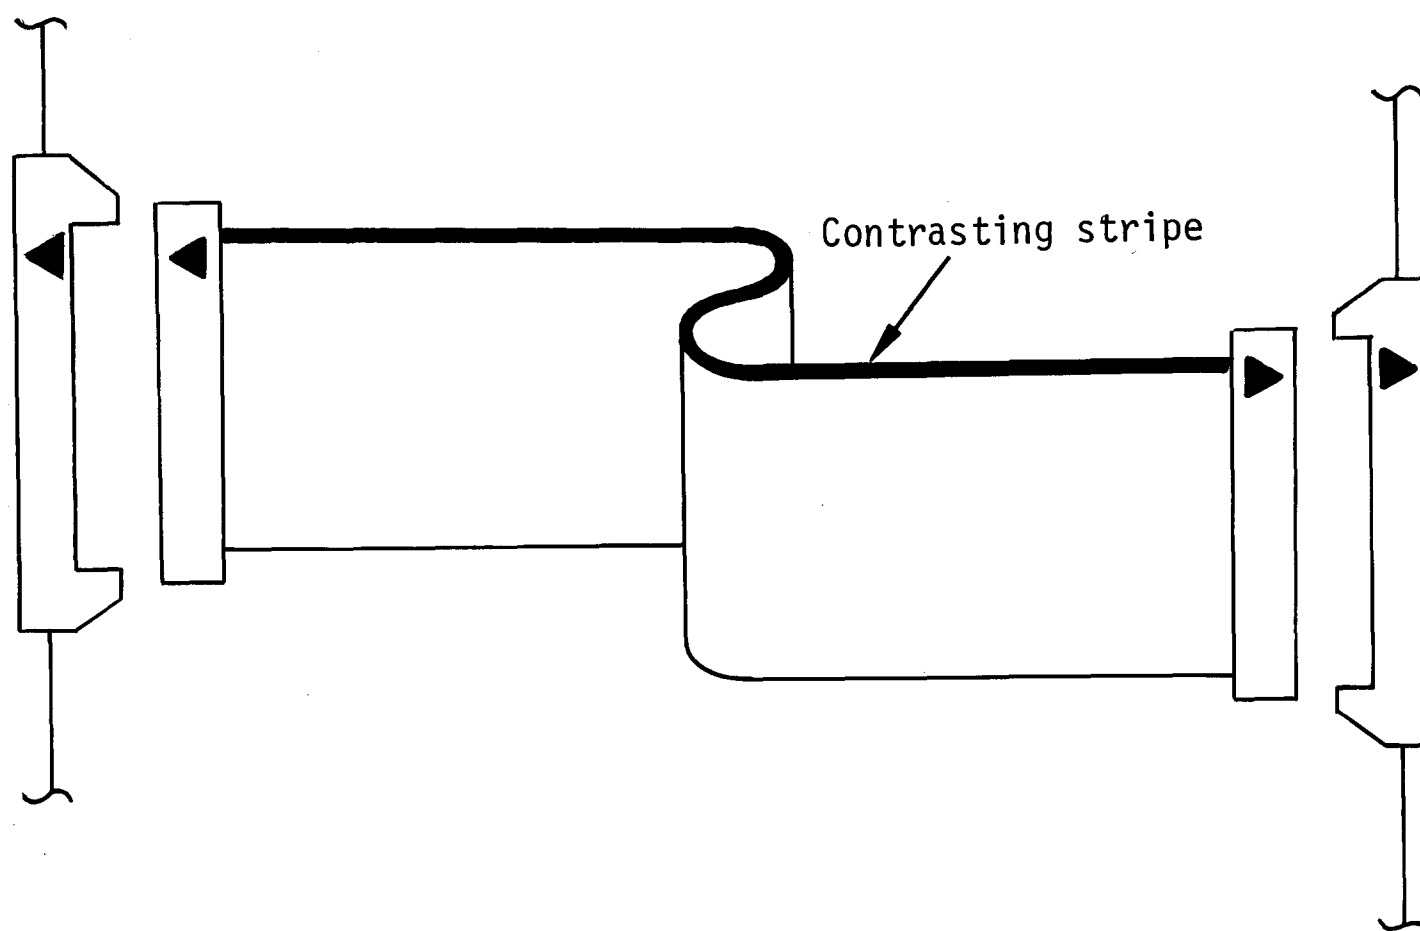

Figure 2-11. Cable to Connector Orientation
3. A simple method to ensure that cables are properly connected is to align the arrow marked on the cable connector to the arrow marked on the mating connector. An illustration of a properly connected cable is shown in Figure 2-11.